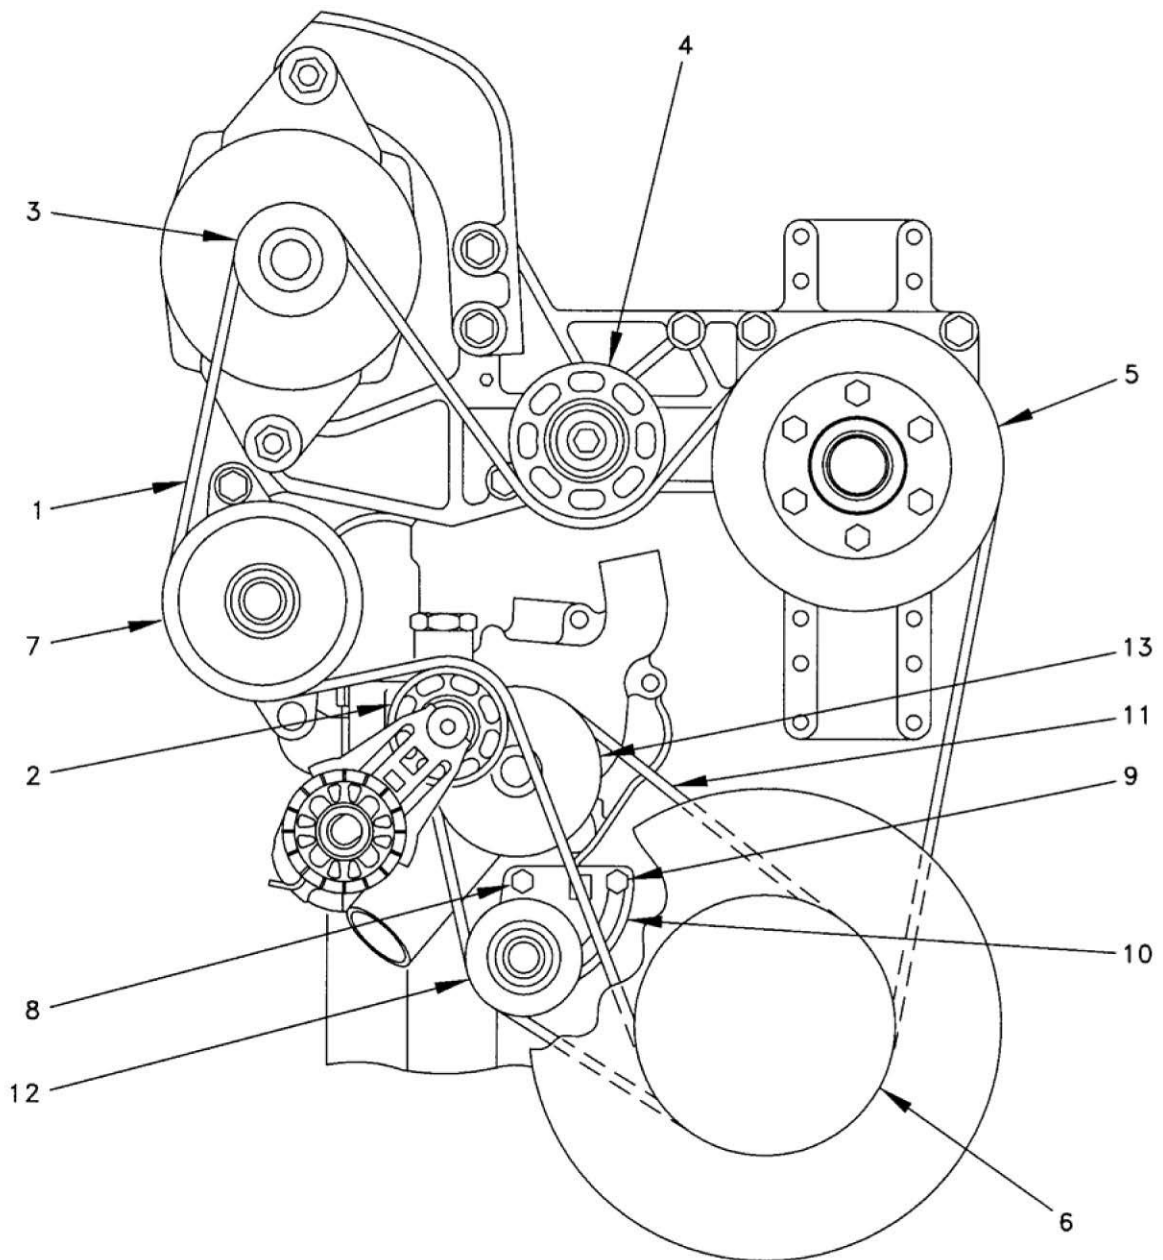

Figure 1. Belt.
3. Place wrench on tensioner pulley (Figure 1, Item 2) and use to rotate tensioner pulley clockwise (CW) sufficiently to relieve tension on alternator belt (Figure 1, Item 1) and slip belt off alternator pulley (Figure 1, Item 3). Allow tensioner pulley (Figure 1, Item 2) to rotate slowly back into place.
4. Carefully remove alternator belt (Figure 1, Item 1) off idler (Figure 1, Item 4), pulley (Figure 1, Item 5), crankshaft pulley (Figure 1, Item 6), tensioner pulley (Figure 1, Item 2), and idler (Figure 1, Item 7).
5. Carefully thread alternator belt (Figure 1, Item 1) over fan blades and remove belt.
6. Loosen bolt (Figure 1, Item 8) and slot bolt (Figure 1, Item 9). Push idler bracket (Figure 1, Item 10) toward left side of engine to relax tension on water pump belt (Figure 1, Item 11).
7. Carefully remove water pump belt (Figure 1, Item 11) from idler pulley (Figure 1, Item 12), water pump pulley (Figure 1, Item 13), and crankshaft pulley (Figure 1, Item 6).
1. Carefully thread water pump belt (Figure 1, Item 11) over fan blades, then onto crankshaft pulley (Figure 1, Item 6), water pump pulley (Figure 1, Item 13), and idler pulley (Figure 1, Item 12).
2. Use breaker bar on idler bracket (Figure 1, Item 10) to tighten water pump belt (Figure 1, Item 11) and tighten slot bolt (Figure 1, Item 9) and bolt (Figure 1, Item 8). Figure 1.
3. Carefully thread alternator belt (Figure 1, Item 1) over fan blades, then onto idler (Figure 1, Item 7), tensioner pulley (Figure 1, Item 2), crankshaft pulley (Figure 1, Item 6), pulley (Figure 1, Item 5), and idler (Figure 1, Item 4).
4. Place wrench on tensioner pulley (Figure 1, Item 2) and use to rotate tensioner pulley clockwise (CW) sufficiently to allow alternator belt (Figure 1, Item 1) to be slipped onto alternator pulley (Figure 1, Item 3). Allow tensioner pulley (Figure 1, Item 2) to slowly rotate back into place.
5. Check alternator belt (Figure 1, Item 1) and water pump belt (Figure 1, Item 11) for correct routing and be sure belts are firmly seated in all pulley grooves.